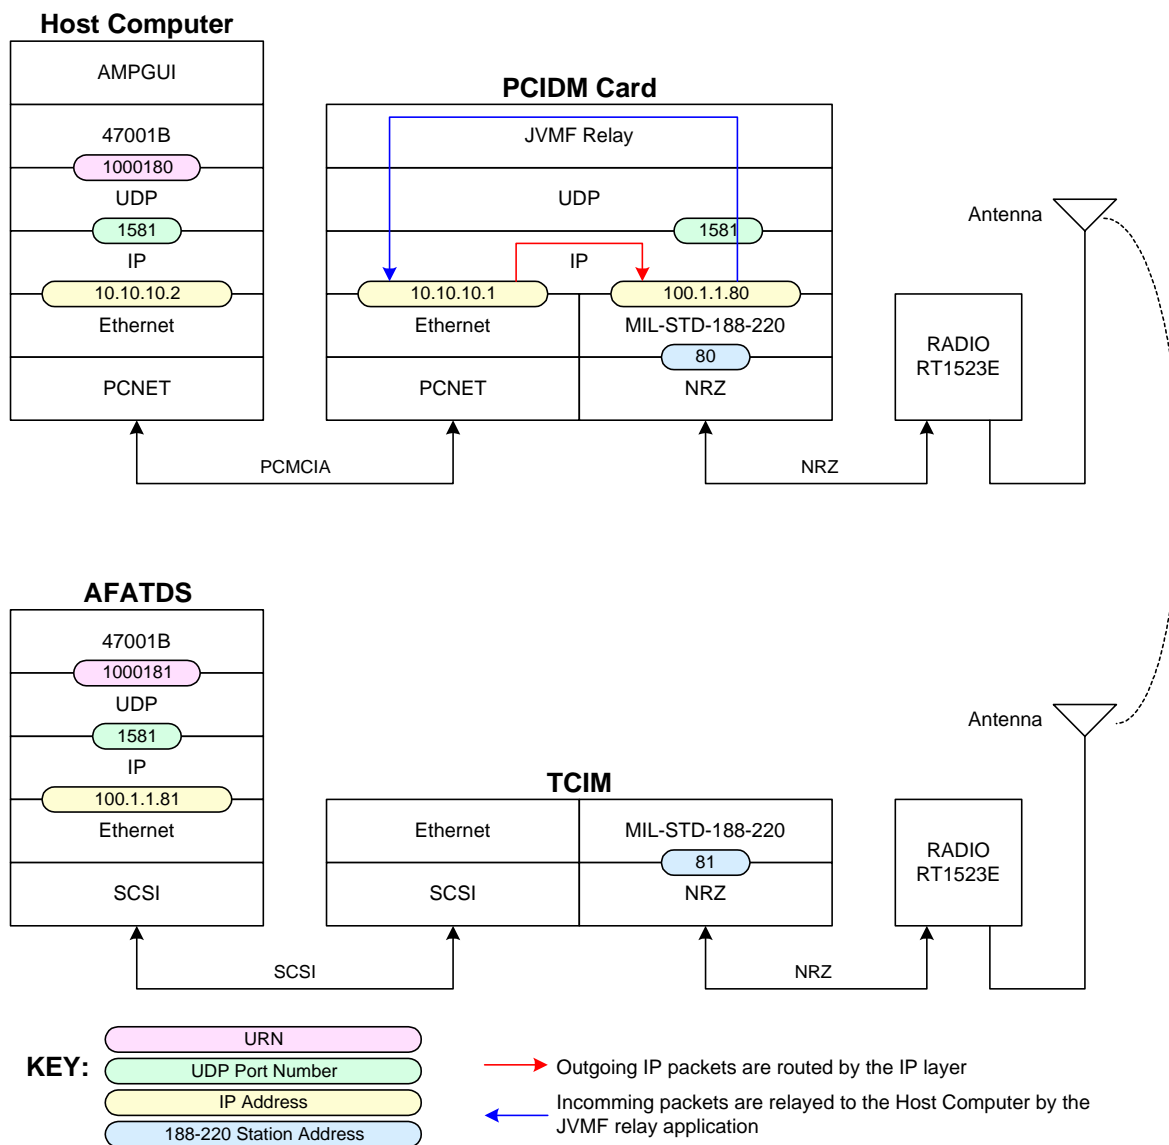

Figure 18: Static Internet Compatibility Diagram
11.2 Static Internet (SI) Compatibility
Static Internet networks use the RT-1523E SINCGARS radio in 4800 bps data mode. The PCIDM interface to the RT-1523E is NRZ at 4800 bps. Figure 18 shows the Static Internet (SI) Compatibility diagram.